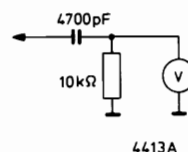

Fig. III-25
- Connect a milli-voltmeter, via an RC-filter, to point 3 or 5 of BU504 (see Fig. III-25).